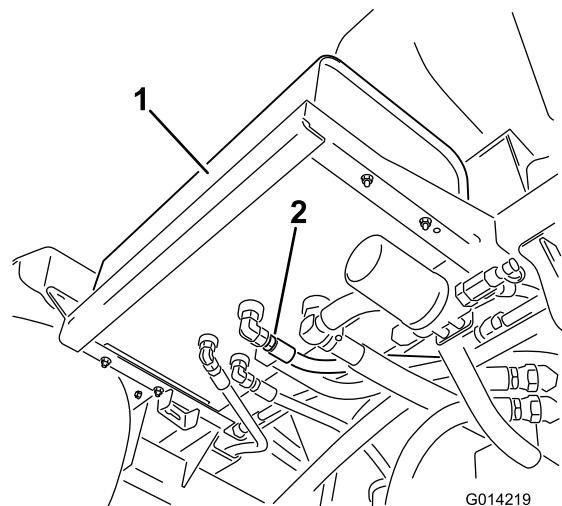

Figure 90
2. Clean the area around a hydraulic-hose fitting on the bottom of the hydraulic-fluid tank (Figure 90).
4. Remove the hose fitting from the tank, allowing the fluid to drain into the pan (Figure 90).